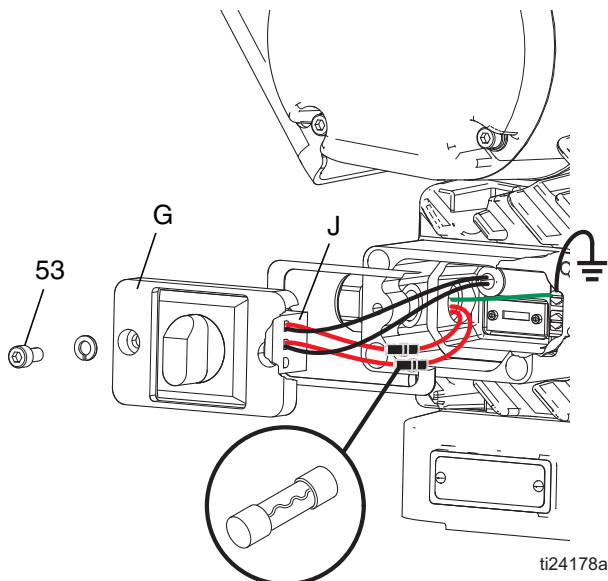

FIG. 9: Fuse Location
3. Remove two screws (53) and remove junction box cover (G) from driver to gain access to the disconnect block (J). See FIG. 9.
- Gently tuck wires back into junction box (S) around disconnect block (J) and reinstall junction box cover (G). Replace two screws (53) and washers, then tighten. See FIG. 9, page 13.